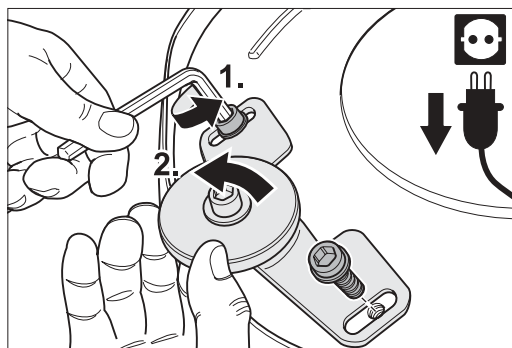

Fig. 79: Remove the screws on the wall-protecting wheel bracket and then remove the complete wall-protecting wheel.
- 3 Remove the two screws with which the wall-protecting wheel is fastened to the attachment and then remove the complete wall-protecting wheel (Fig. 79).